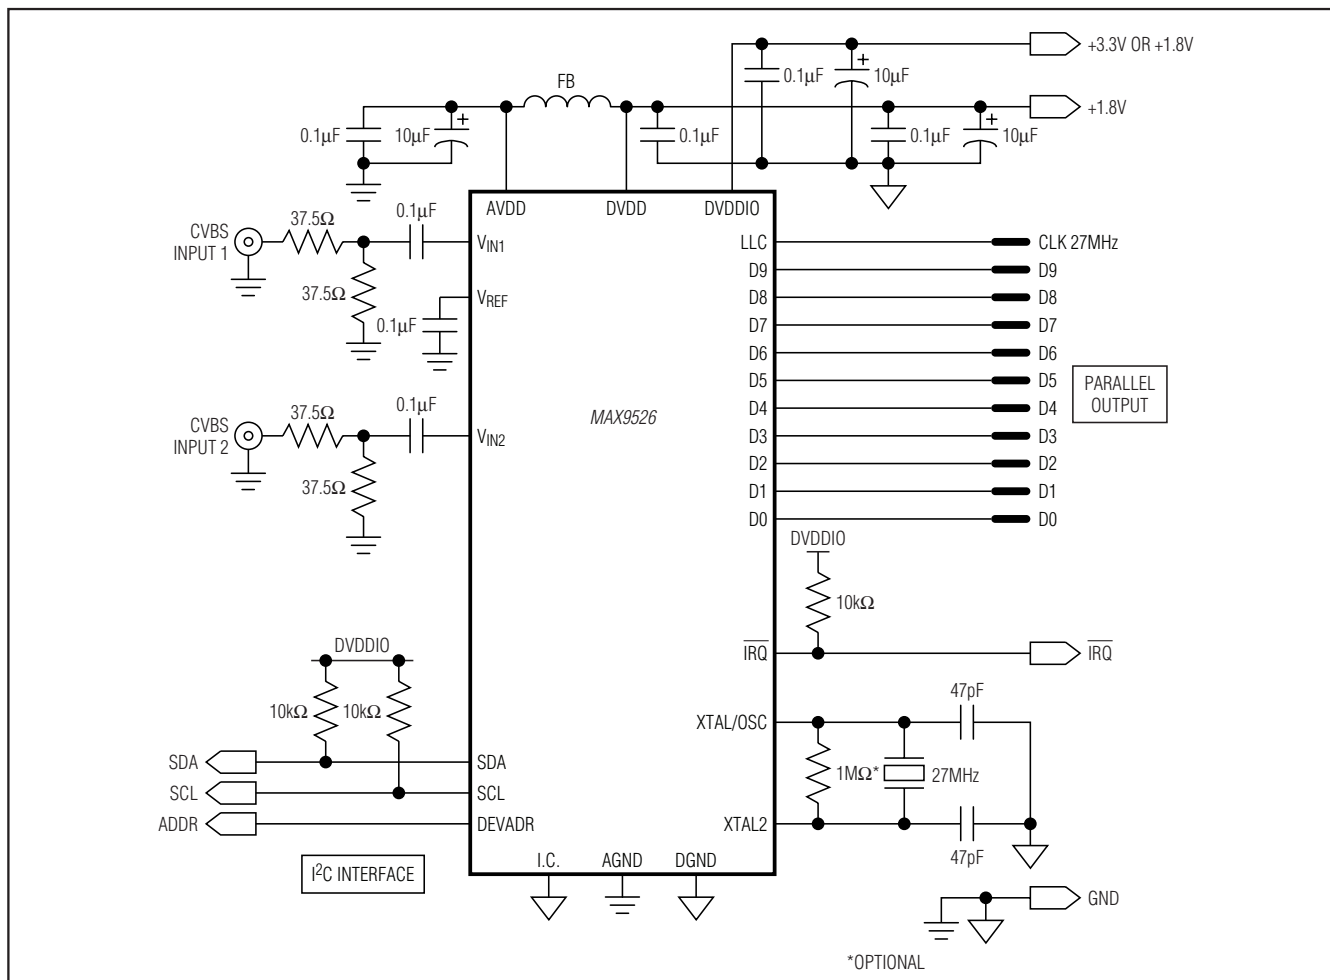

Figure 8. MAX9526 Typical Application Circuit with Additional Supply Isolation
For systems where additional power-supply isolation is required, the circuit shown in Figure 8 can be used. Additional supply decoupling is added and analog power (AVDD) isolation is increased with the use of a ferrite bead (FB). The analog ground connection (AGND) should be connected to a separate ground plane that has a small bridge to the main ground plane of the system. The video input termination ( $V_{IN1}/V_{IN2}$ ), video reference (VREF) decoupling, and AVDD supply decoupling should also be connected to the AGND ground plane.